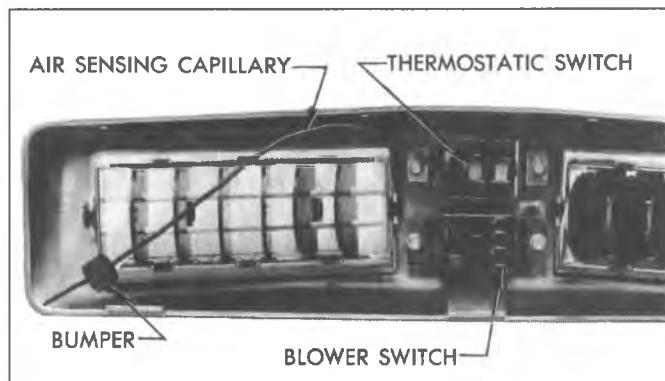

Fig. 98--Thermostatic and Blower Switches
2. Remove two screws securing either switch to the cover plate and remove appropriate switch (fig. 98).